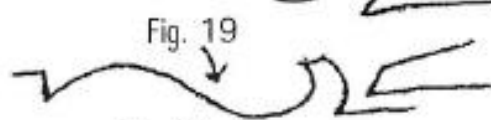

Fig. 19
14. Curl up tip with butcher and finish tip with hammer. (fig. 19, 20)